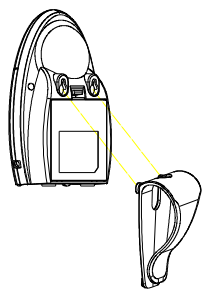

Fig. 7
1. Use the clip as supplied for fixing the Camera on the crib or table edge. (Fig. 7)
2. Place the clip to the two slots on the top of Camera and lift it up to fit it in place. (Fig. 7)